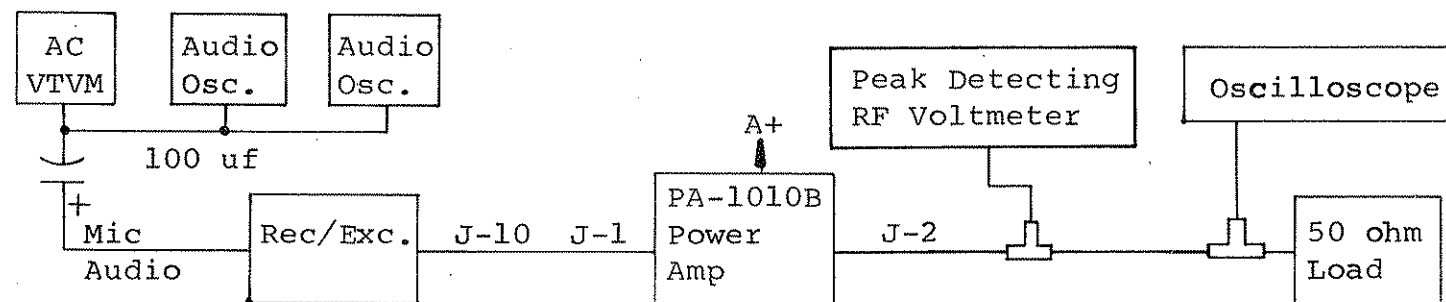

Figure V-6
- (1) Connect test equipment, as shown in Figure V-6.
- (2) OFF/ON switch in "ON" position.
- (3) Channel selector in desired frequency position.
- (4) Allow 15 minutes for equipment warm-up.